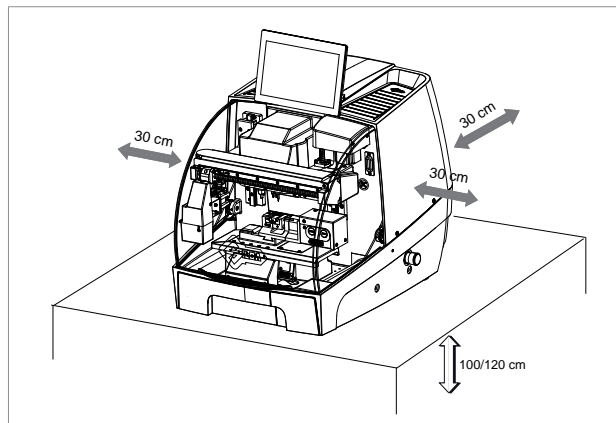

Fig. 19
- 1) Place the key-cutting machine on a solid horizontal work bench suitable for the weight of the machine (cap.3, pag.9). The work bench should be approximately 100-120 cm high to facilitate access to the working parts. We recommend leaving at least 30 cm clearance behind and around the machine to ensure good ventilation and facilitate handling (Fig. 19).